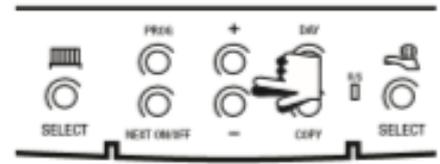
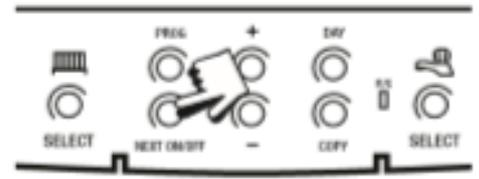

Fig. 4
Fig. 8
4. Press the DAY button once (Fig. 4) and SASU will appear at the bottom of the display (Fig. 8). Programme new ON/OFF times by pressing the NEXT ON/OFF button (Fig. 7) once to move to the next setting and using the + and - buttons (Fig. 3) to set the time you want.
3. Press DAY button once only (Fig. 4), the next day (e.g. TU) will appear at the bottom of the display. Continue programming for the rest of the week by pressing the NEXT ON/OFF button (Fig.7) to move to the next setting, using the + and - buttons to amend the time, and by pressing DAY to advance to the next day (Figs. 7, 3 & 4).